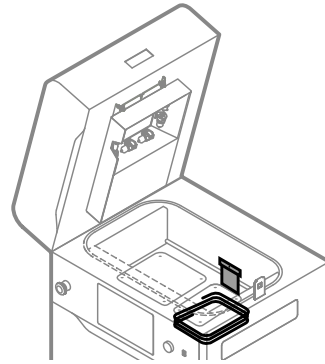

Fig. 12.27 Use a plastic spatula to press down the sealing.
20. Use a clean, plastic spatula while pressing down the fibreglass rope (fig. 12.27).